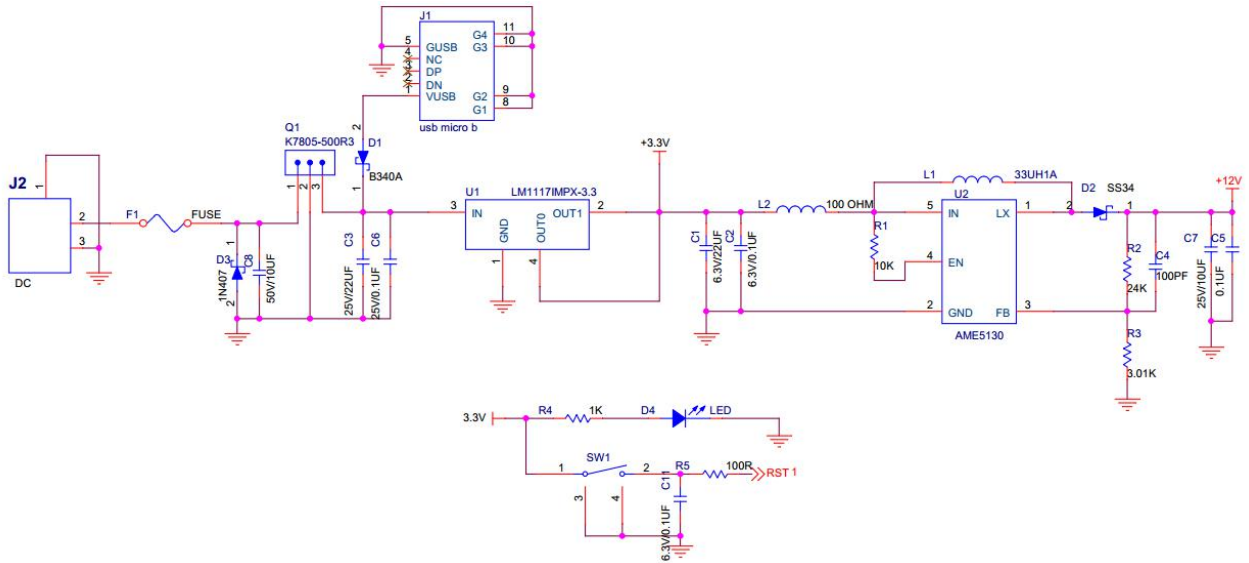

Figure 8: Signal indicators, factory parameter restoring circuit and all kinds of filter circuits
4) The circuit diagram shown in Figure 8 includes signal indicator circuit, factory parameter restoring circuit and various filtering circuits.